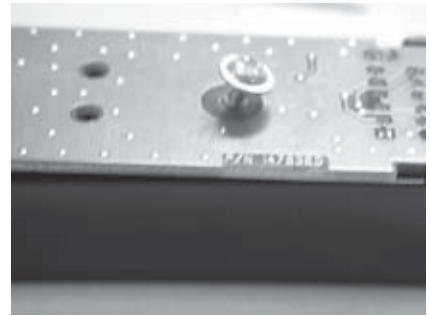

Figure A-1. Screw and Housing Removal.
1. Remove the screw and the housing as shown in Figure A-1.